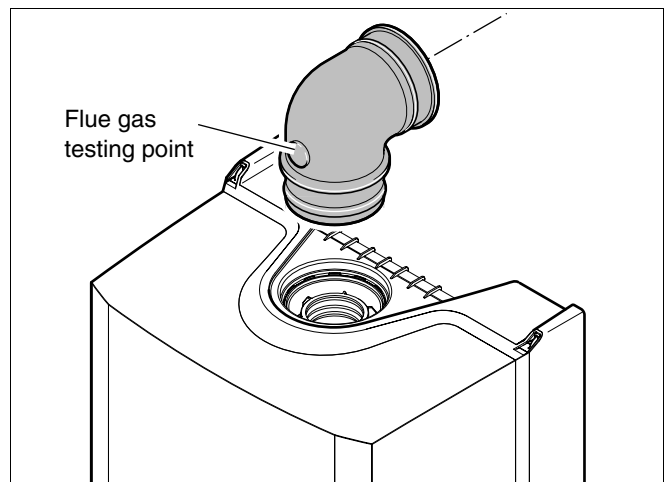

fig. 19 Horizontal flue turret with flue gas testing point
- Fit the horizontal flue turret (fig. 19) onto the appliance flue connector.
- Push the assembly through the wall and slide the turret onto the flue connector. Refer to figure 19. Ensure that the turret is fully entered into the socket on the boiler.